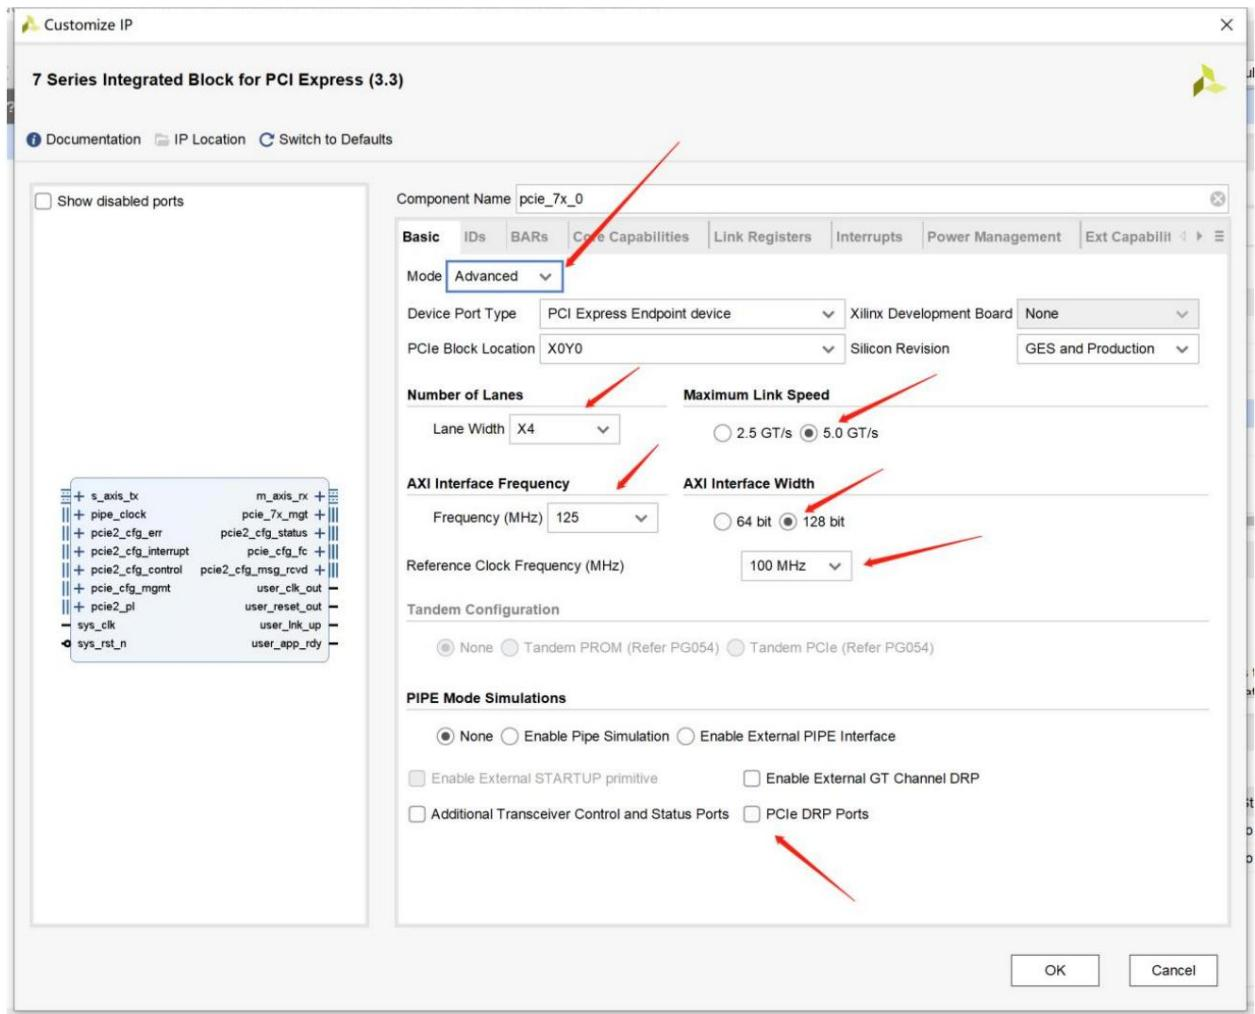

Figure 3-16 Basic Configuration
- Items Figure 3-16 shows the Basic configuration items, which include the following main contents: